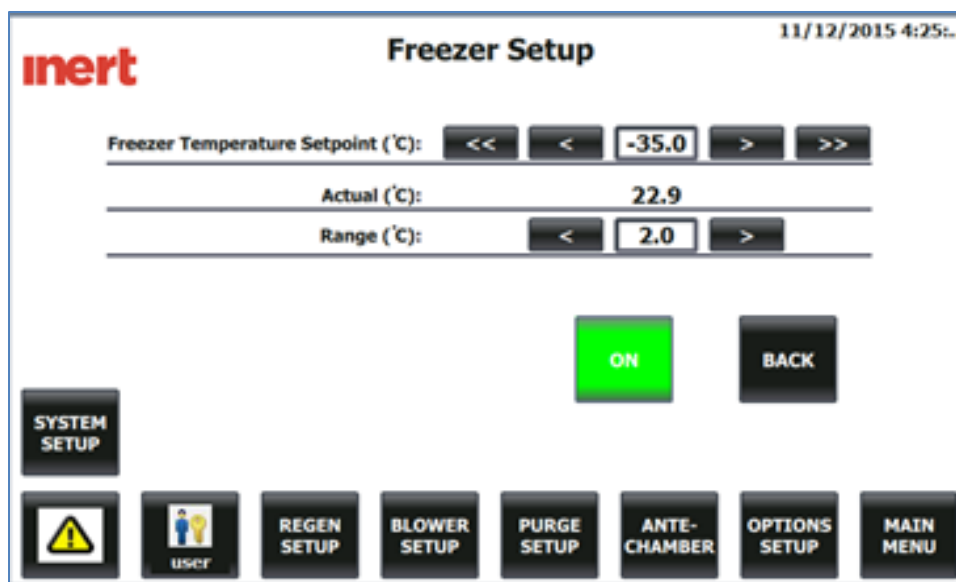

Figure 35 - Freezer Setup Screen
- 2 On the Options Setup screen, tap the Oven Temp Setup button. The Oven Temperature Setup screen (**FIGURE 35**) opens.